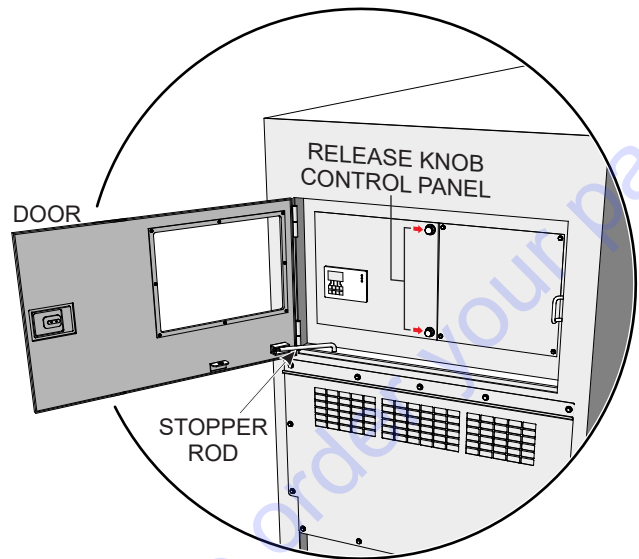

Figure 3. Cabinet Door and Control Panel
1. Open the front cabinet door (Figure 3) and secure the door with the stopper rod.
2. Turn both release knobs (Figure 3) on the control panel counterclockwise, then swing open the control panel.